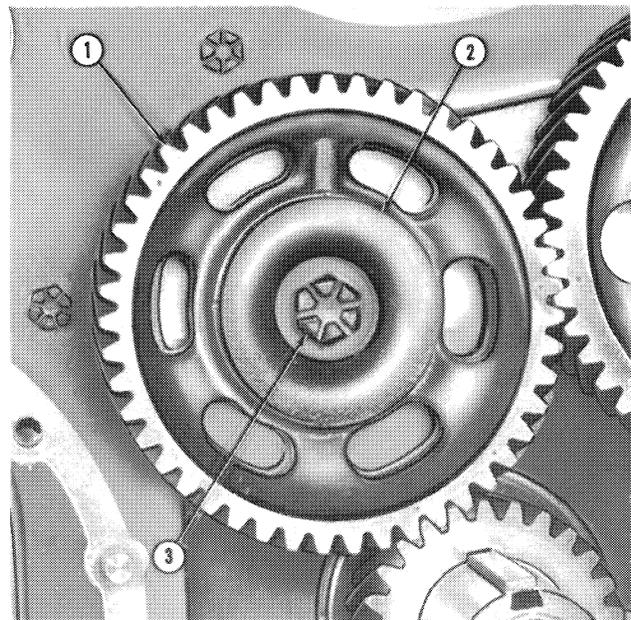

Figure 25
1. Remove the self-locking bolt that retains the camshaft drive gear and adapter to the cylinder block, Figure 25.